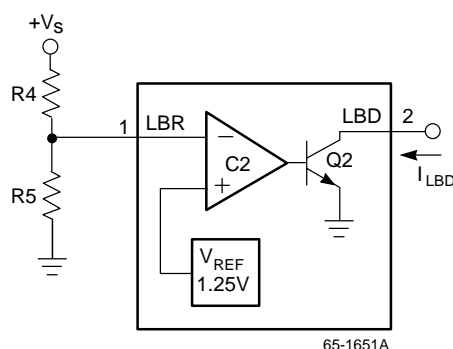

Figure 13. Low Battery Detector
*Caution: Use current limiting protection circuit for high values of C_F (Figure 13)
An open collector signal transistor Q2 with comparator C2 provides the designer with a method of signaling a display or computer whenever the battery voltage falls below a programmed level (see Figure 13). This level is determined by the +1.25V reference level and by the selection of two external resistors according to the equation:
Draws excessive supply current on start-up.	Inductance value too low. Output frequency (FO) too low. Combination of low resistance inductor and high value filter capacitor — needs current limiting circuit (Figure 13).